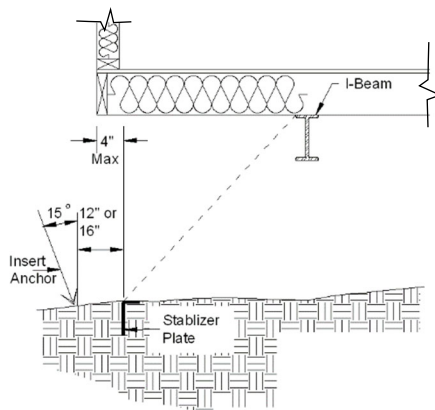

Figure 74. Determining anchor and stabilizer plate location
1. **Locate anchor.** Select a location for the anchor under the home but within four inches of the exterior wall **Figure 74**. Avoid locations that will interfere with skirting.